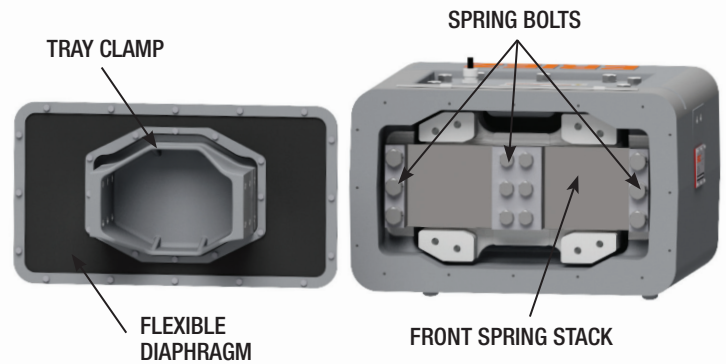

Figure 12
1. Remove diaphragm clamps and rubber diaphragm from front of unit. **(Parts 7, 8 & 9) (See Figure 12)**